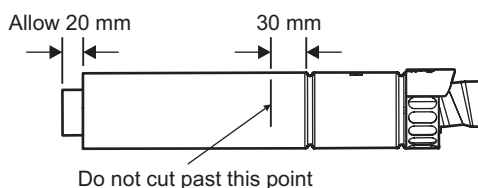

Fig. 4.10
4.7 REDUCING THE FLUE - Fig. 4.10
When the flue length required is less than the minimum stated in Section 4.6, paragraph 1, refer to Fig. 4.10.